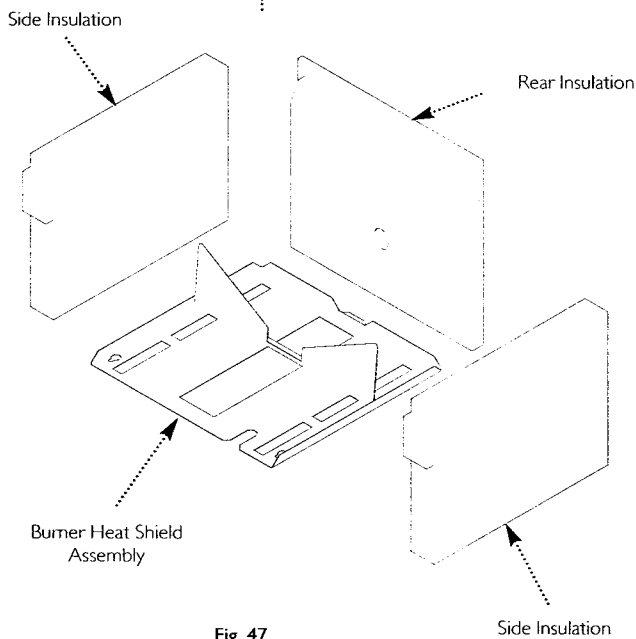

Fig. 47
2. Remove the side and rear insulation pieces by releasing the screws securing the burner heat shield assembly. Slide the burner heat shield assembly forward and lift front end to disengage from screws. Remove the heat shield (Fig. 47).
3. Remove the rear insulation first by sliding the bottom end forward (Fig. 47).
4. The side insulations can now be removed taking care not to catch the burner heat shield assembly securing screws (Fig. 47).